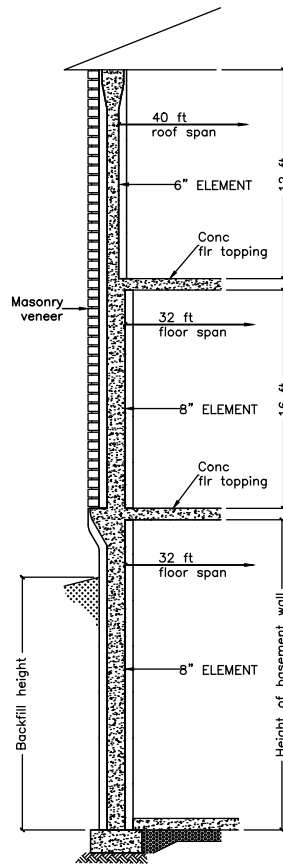

Fig 2B
- Table 2A shall be read in conjunction with Fig 2B, and "NOTES FOR TABLES 2A TO 2D - ELEMENT BELOW-GRADE TABLES."